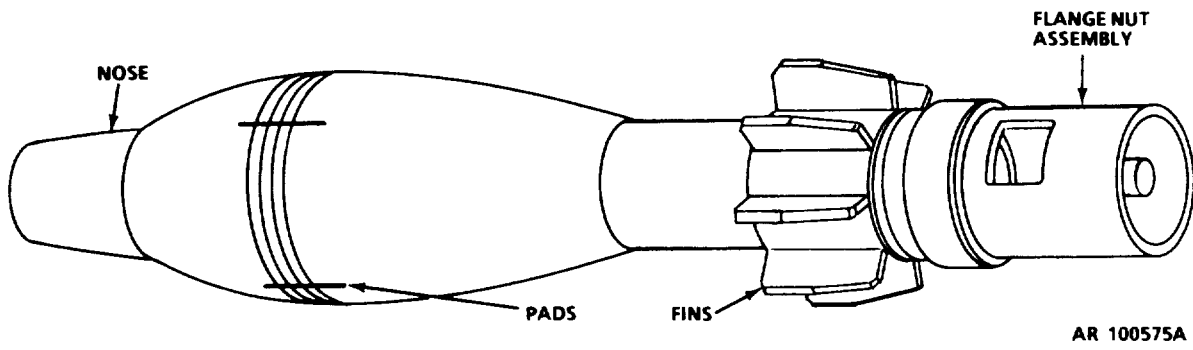
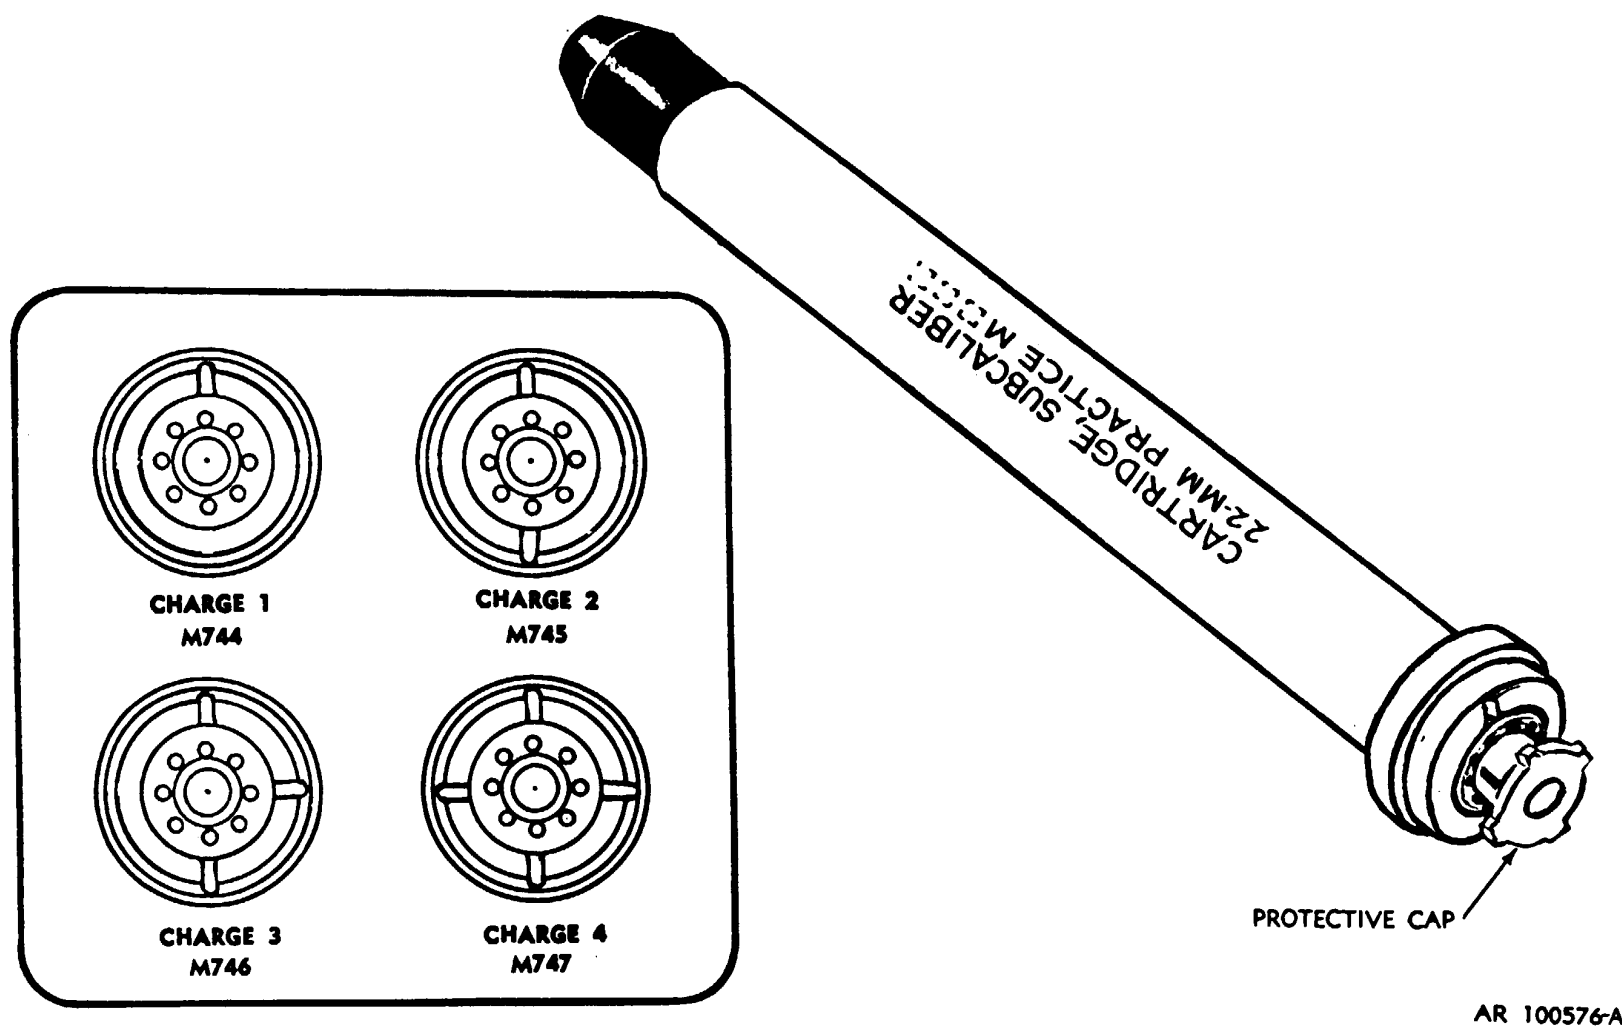

Figure 1-1. 81 mm Sabot, M1.
Figure 1-2. 22-mm practice cartridge, M744, M745, M746, M747.
a. General. The 81mm Sabot (INERT) M1 (fig. 1-1) is designed to fire a 22mm subcaliber practice cartridge M744, M745, M746 or M747 (charges 1, 2, 3, or 4, respectively) (fig. 1-2) as training device in all model 81mm mortars. The Sabot with 22mm sub-caliber practice cartridge provides realistic mortar firing training at distances which correspond to range fire distances in the ratio of 1 to 10. The subcaliber device can be fired using standard mortar and sighting and fire control equipment and a special firing table (fig. 2-8) in the same manner as standard service mortar ammunition.
b. 81mm Sabot (INERT) M1. The Sabot (aluminum alloy body) has the bore riding dimensions and configuration of an 81mm mortar cartridge. It contains an insert 22mm barrel (not rifled) placed longitudinally to receive the 22mm sub-caliber cartridge which is loaded in the magazine just prior to firing (fig. 1-3). A flange nut assembly (fig. 1-4) retains the 22mm sub-caliber cartridge in the Sabot, initiates the percussion primer and deflects the ejection charge gases (to prevent erosion of the mortar basecap). The shaft of the Sabot (fig. 1-1) has fins (similar to fins of the service mortar cartridge) and guide pads to guide the Sabot as it travels up the mortar tube when fired. The nose of the Sabot is solid brass to protect the assembly on impact. On firing, the loaded Sabot is ejected from the mortar barrel. The Sabot hits the ground within 4 yards in front of the mortar while the 22mm practice cartridge flies on to its target. When not loaded with a 22mm practice cartridge the Sabot (INERT) may be used as a dummy round. The Sabot is rugged and can be reloaded and fired again (up to 1,000 times) for training purposes. It is stored (INERT) in a packing box containing 3 rounds (fig. 1-5).
c. 22mm Sub-caliber Practice Cartridge, M744 (charge 1), M745 (charge 2), M746 (charge 3), M747 (charge 4). The cartridge (fig. 1-6) consists of the projectile with stabilizer fins and cartridge case (divided chambers). The projectile has a steel body flattened at the tip. The wingshaft assembly, press-fit into the projectile body, contains the stabilizer fins (spring steel wrapped around the shaft) to stabilize flight. The wingshaft assembly also serves to seal the base of the projectile body. The projectile body (fig. 1-9) contains the impact fuze and smoke signal charge. The propelling and ejection charges are contained in two separate chambers located in the jet-housing assembly, which is threaded into the base of the cartridge case. A flash tube hole between the chambers permits ignition of the propelling charge by the ejection charge. The cartridges are manufactured in a variety of four propellant charges. Each charge can be identified by notches on the jet screw assembly (fig. 1-2). One notch designates M744 (charge 1), two notches designate M745 (charge 2), etc. Cartridges are packed 100 per Tri Wall Test Board (#1100) Box (Spec PPP-B-640) with each cartridge in its own molded polystyrene compartment (fig. 1-7).